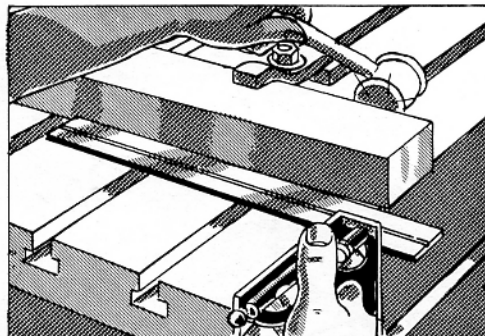

FIG. 305
4. Place a single thickness of thin paper on the shaper table for the purpose of increasing the amount of friction between the work and the table and reducing the likelihood of the job shifting during the cut (Fig. 305).
8. Place the head of a combination square (or the blade of a steel square) against the side of the table. Extend the blade long enough to permit the work to be squared. (See Figures 305 and 306.)